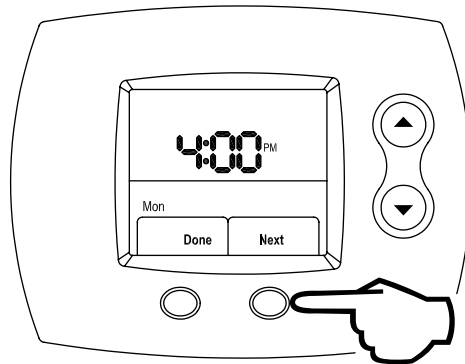

Figure 41
Step 4: When the correct hour is shown, press the **RIGHT** (Next) button. This is shown in Figure 41.